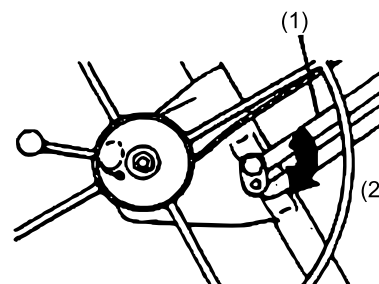

Figure 5
5. Press the winch assembly slightly back toward the frame. This automatically engages the slide bar lock to keep the winch fully extended (Fig. 5).
**IMPORTANT:** Before continuing, be sure that the slide bar lock (1) is fully engaged — that is, rotated clockwise as far as possible (2).